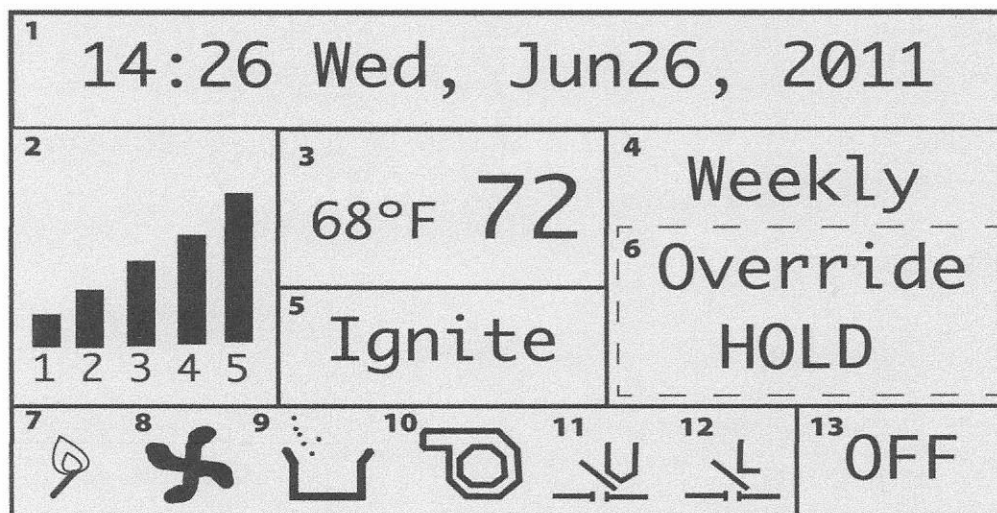

Figure 19
When the stove turns on, the ignition indicator and the combustion blower indicator will appear on the screen (images and 8 in Figure 19 on page 23). "Ignite" will also appear in the work stage box on the screen. After approximately four seconds, the vacuum switch indicator will appear. Also note that the hopper lid open indicator (limit indicator) will appear anytime the stoves hopper lid is properly shut and sealed.
9. With a schedule set, make sure that the main display screen on the controller reads "Weekly" (for operating in the Weekly Mode) and that the unit is turned on. The schedule will not take effect unless the unit is turned on in the Weekly Mode. (See button 13 on Figure 19.)